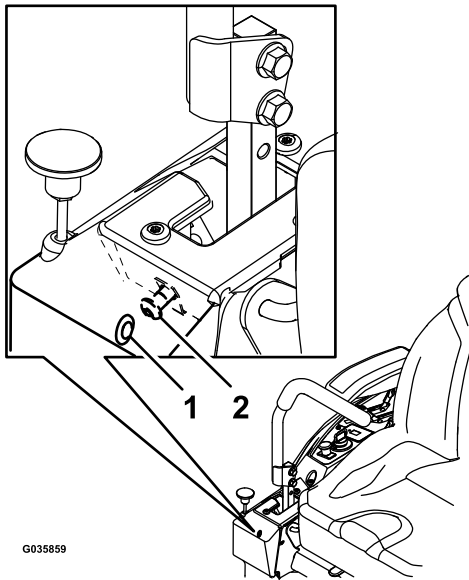

Figure 88
6. If the machine tracks to the right, insert a 3/16 inch hex wrench through the access hole in the right front cover panel and rotate the tracking screw clockwise or counterclockwise to adjust the travel of the lever (Figure 88).
7. If the machine tracks to the left, insert a 3/16 inch hex wrench through the access hole in the right front cover panel and rotate the tracking screw clockwise or counterclockwise to adjust the travel of the lever (Figure 88).